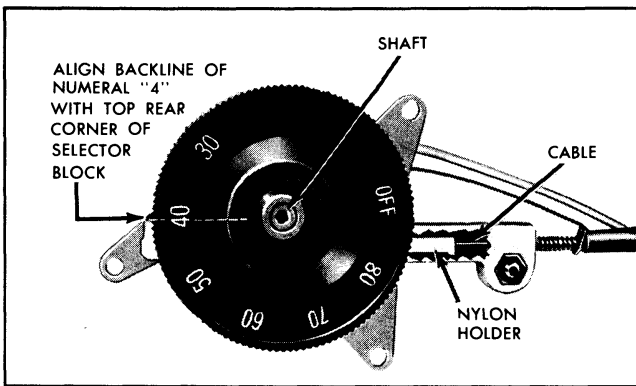

Fig. 12-47 Calibrating Selector Dial
SELECTOR DIAL CALIBRATION (Fig. 12-47)
4. Install selector dial on shaft so that backline on numeral 4 (of 40 MPH setting), when in horizontal position, aligns with top rear corner of selector block (Fig. 12-47).